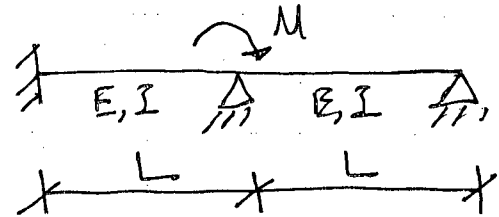

Fig. 6
- (c) Determine the rotation at the right most hinge of the beam shown in Fig. 6. (8 1/3)